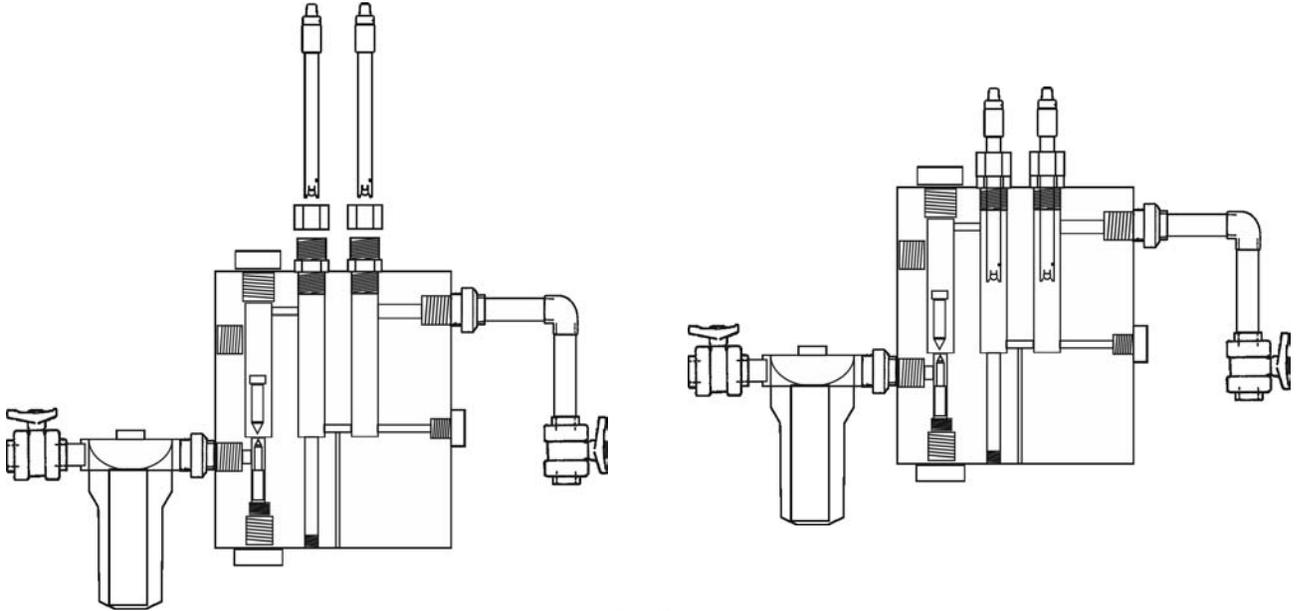
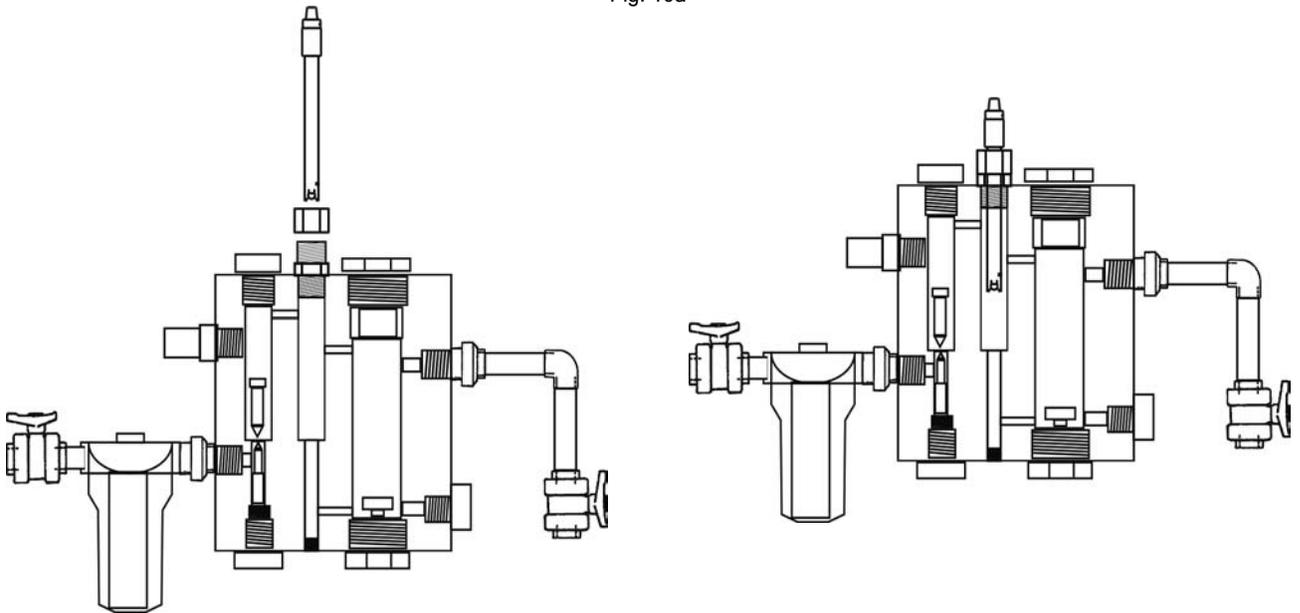

Fig. 10a
Fig. 10b
1. Insert the pH sensor into its corresponding place of the holder. EXT-1E (Fig. 10a) / EXT-2 (Fig. 10b).